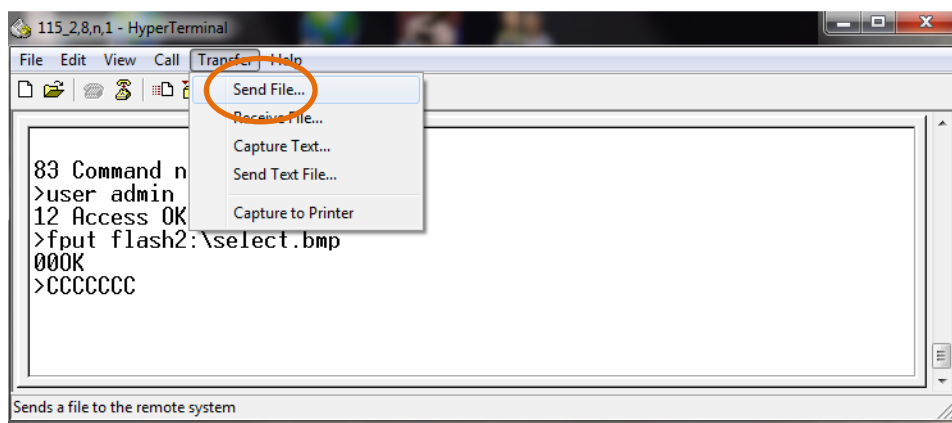

Figure D-6: HyperTerminal Starting Display
6. HyperTerminal should show OK on the screen then begin showing a series of capital letter "C"s indicating the IND570 terminal is ready to receive the file from the PC (Figure D-6).